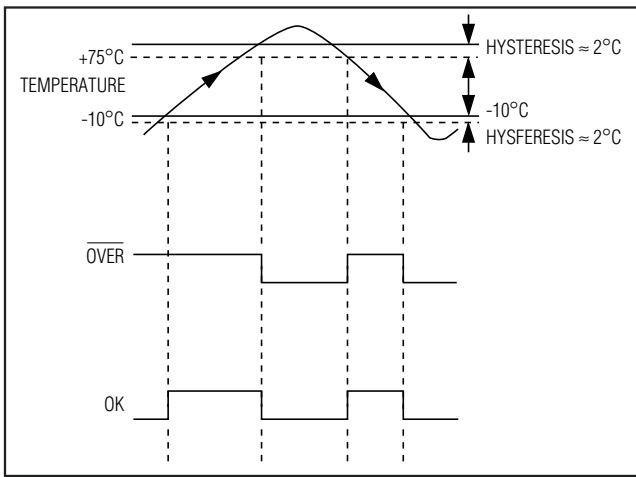

Figure 2. Temperature Response—MAX6507A04B Outputs with 2°C Hysteresis
The MAX6507/MAX6508 have two factory-programmed threshold temperatures ( $T_{OVER}$  and  $T_{UNDER}$ ) and two outputs (OK and OVER). One output (OK) asserts when the temperature is between  $T_{OVER}$  and  $T_{UNDER}$ . The other output (OVER) asserts when the temperature is above  $T_{OVER}$ . Table 4 shows the hex codes to determine the part numbers associated with specific values of  $T_{OVER}$  and  $T_{UNDER}$ . The first hex code indicates the lower trip point ( $T_{UNDER}$ ) and the second indicates the higher trip point ( $T_{OVER}$ ). For example, a part with  $T_{UNDER} = -10^{\circ}\text{C}$  and  $T_{OVER} = +75^{\circ}\text{C}$  will have the part number MAX6508UTA04B (Table 4 and Figure 2). MAX6507 has open-drain outputs; MAX6508 has push-pull outputs.